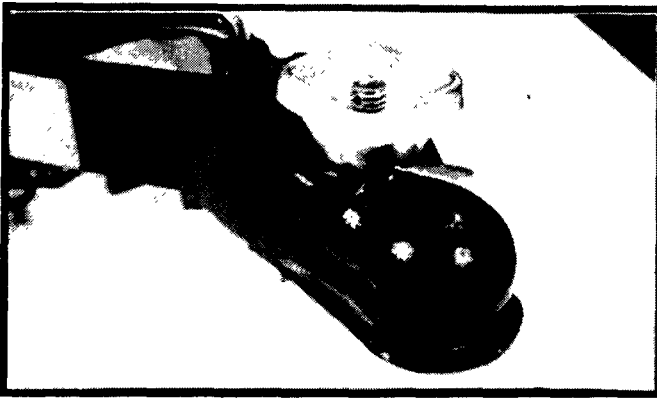

Figure 6
- Place the spring over the bolt and onto the top of the ball clamp. From underneath the hitch end, push the locking lever handle through the square hole leaving the eyelet inside the hitch (See Figure 5). Push the bolt assembly, from below, through the eyelet of the locking lever and on through the hitch end. Install the handle to complete the assembly (See Figure 6).